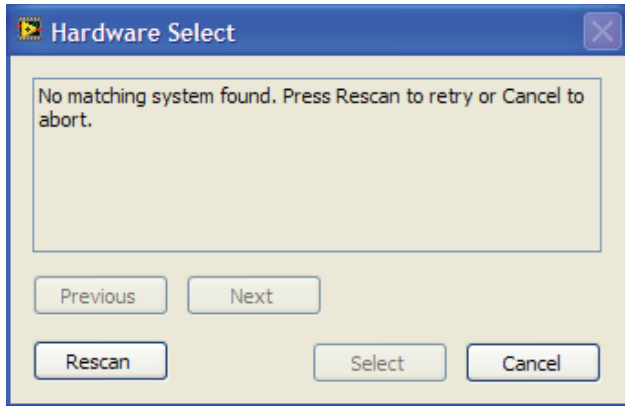

Figure 3. Pop-Up Window Error
2. If the **EVAL-SDP-CB1Z** board is not connected to the USB port when the software is launched, a connectivity error displays (see Figure 3). Simply connect the **EVAL-CN-304-SDZ** evaluation board to the USB port of the PC, wait a few seconds, click **Rescan**, and follow the instructions.